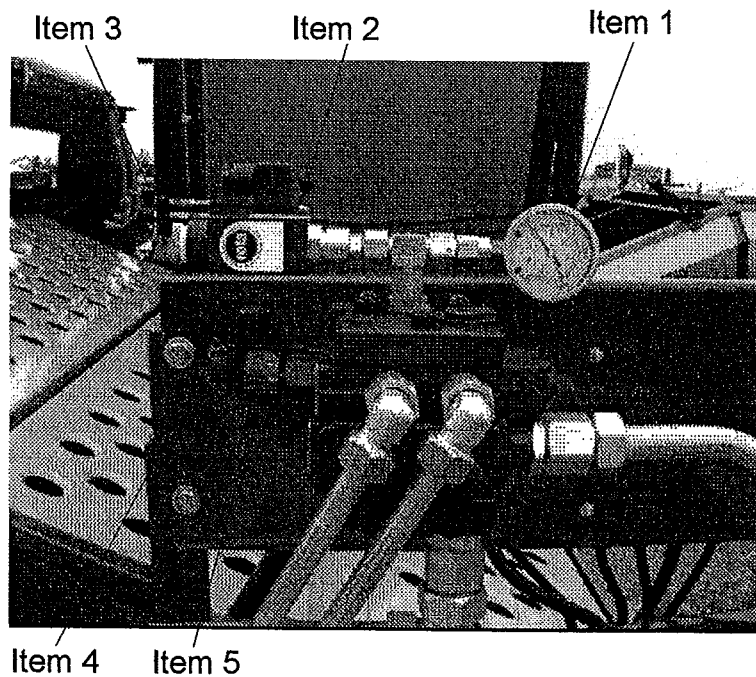

Fig 8.14
The proclean is hydraulically driven by two motors and if overloaded or blocked is designed to put the drive into reverse for a short period to unblock itself. The reverse operation is engaged by a pressure sensing switch, sensing the operating pressure in the drive motors. This trigger point for pressure is adjustable on the pressure switch (Fig 8.14 item 2) by an adjusting knob (Fig 8.14 item 3) and should be set at 70 bar for normal operating conditions.
Check pressure switch by adjusting it to its lowest setting (Fig 8.14 item 3), turn anti-clockwise. Run proclean and check that the light on the timer relay lights up. The timer relay can be found in the electrical box mounted behind the proclean hydraulic control valve (Fig 8.15) the timer relay is orange in colour and has two knobs on for adjusting timer settings. The timer light can be seen in Fig 8.16.
If the unit is not working, and there is no supply then remove the cover from the electrical box mounted behind the proclean valve bank situated on the left hand side at the rear of the harvester. (Fig 8.14).